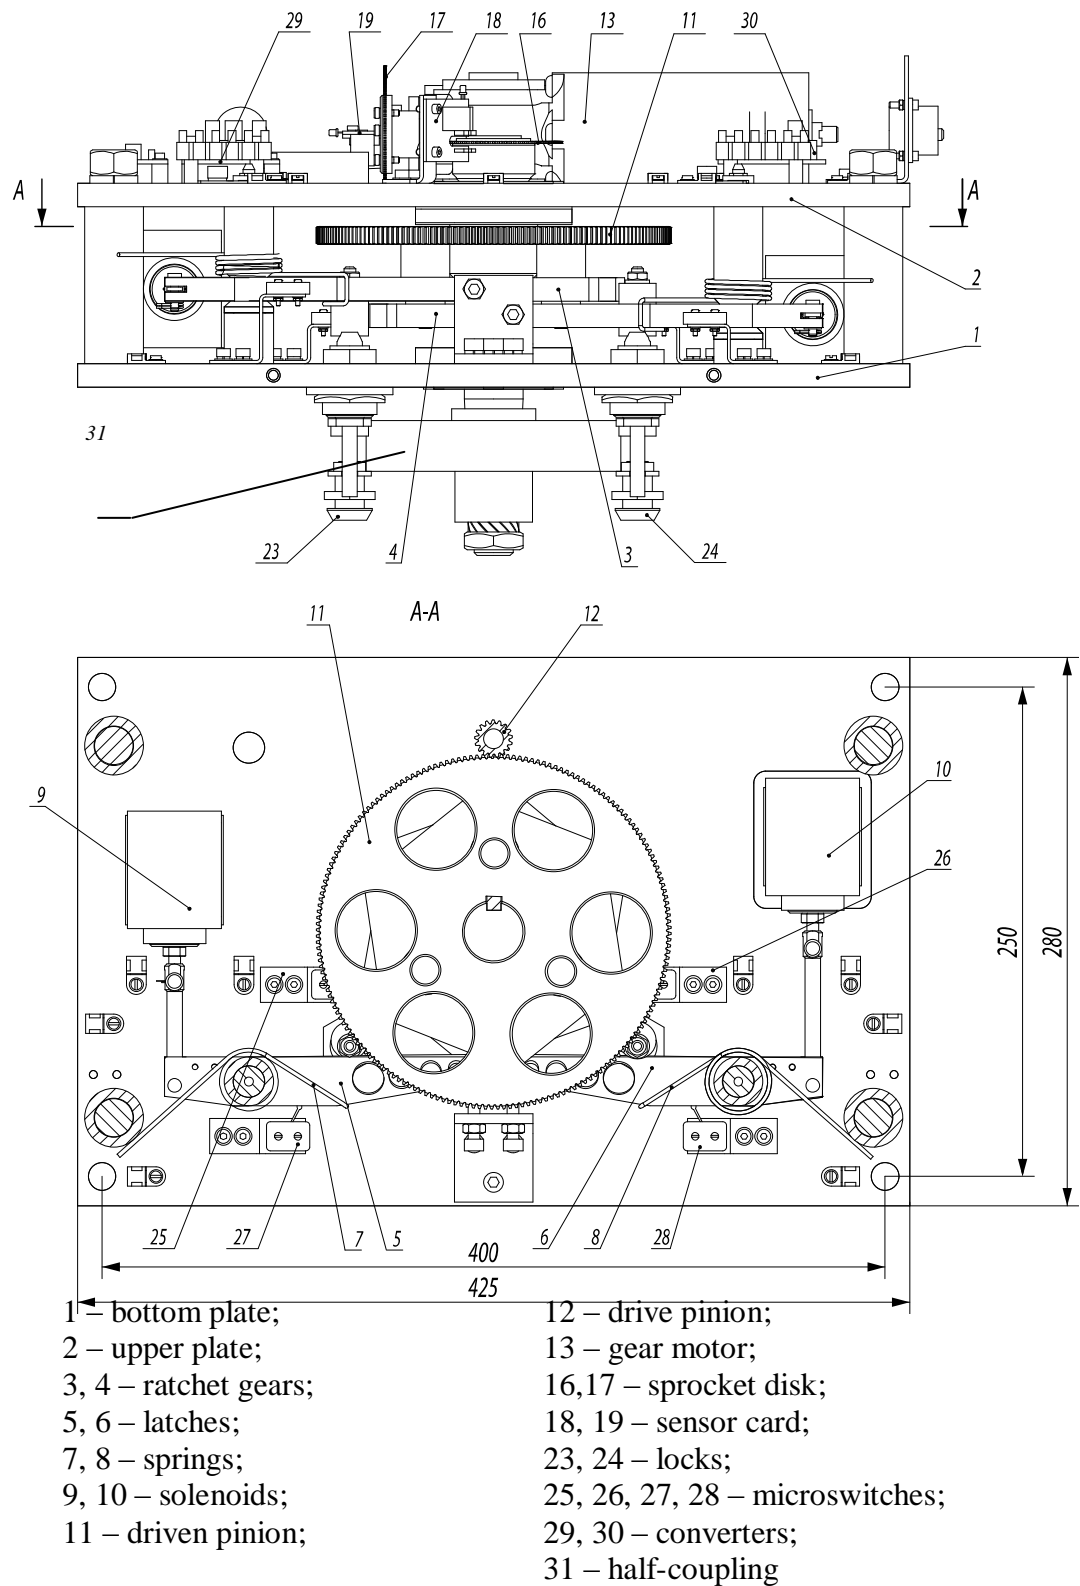

Figure 1 – Control mechanism
1.4.1.3 The control mechanism design (see the Figure 1) consists of bottom and upper plates (1 and 2), on which primary components of structure are located.